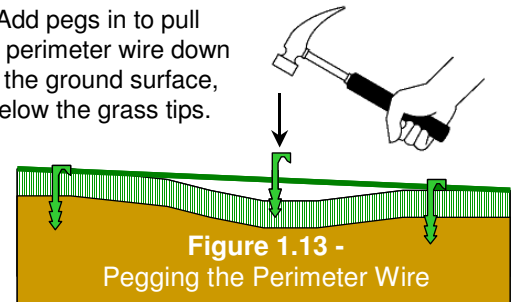

Figure 1.13 -
- Pegs should be driven at distances between one another that will keep the wire down below the grass level and prevent it from becoming a tripping hazard (Figure 1.13).